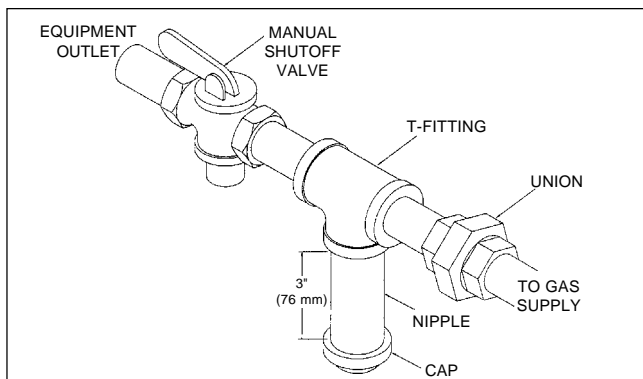

Figure 5. T-Fitting and Sediment Trap
- High altitude (H) - 2,000 to 6,000 feet (609 to 1829 m)
- High altitude (J) is 6,000 to 10,000 feet (609 to 3048 m)
- In Canada, the heater rating plate is marked for specific altitude requirements: high altitude (H) is 2,000 to 4,500 feet (609 to 1372 m) above sea level.
- Install a sediment trap (drip leg) ahead of the gas controls (see Figure 5). Fit the trap with a threaded cap which can be removed for cleaning.